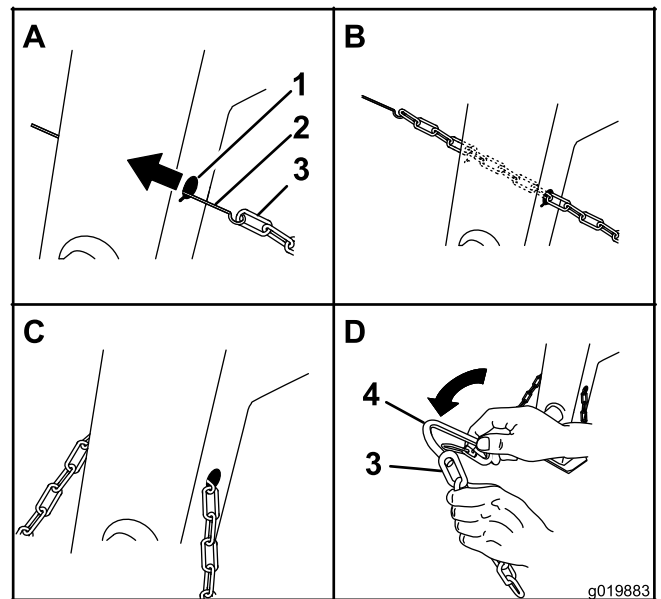

Figure 6
1. Form a hook on the end of a bendable piece of rod or stiff wire (not included), and insert it through both keyholes in the front post of the machine (Figure 6).
2. Attach the safety chain to the length of rod or wire (Figure 6).
3. Pull the rod, or wire, and the safety chain through both keyholes (Figure 6).
1. Align the connecting link to the last link in one end of the safety chain (Figure 6).
2. Insert the connecting link through the chain link until the connecting link snaps closed (Figure 6).